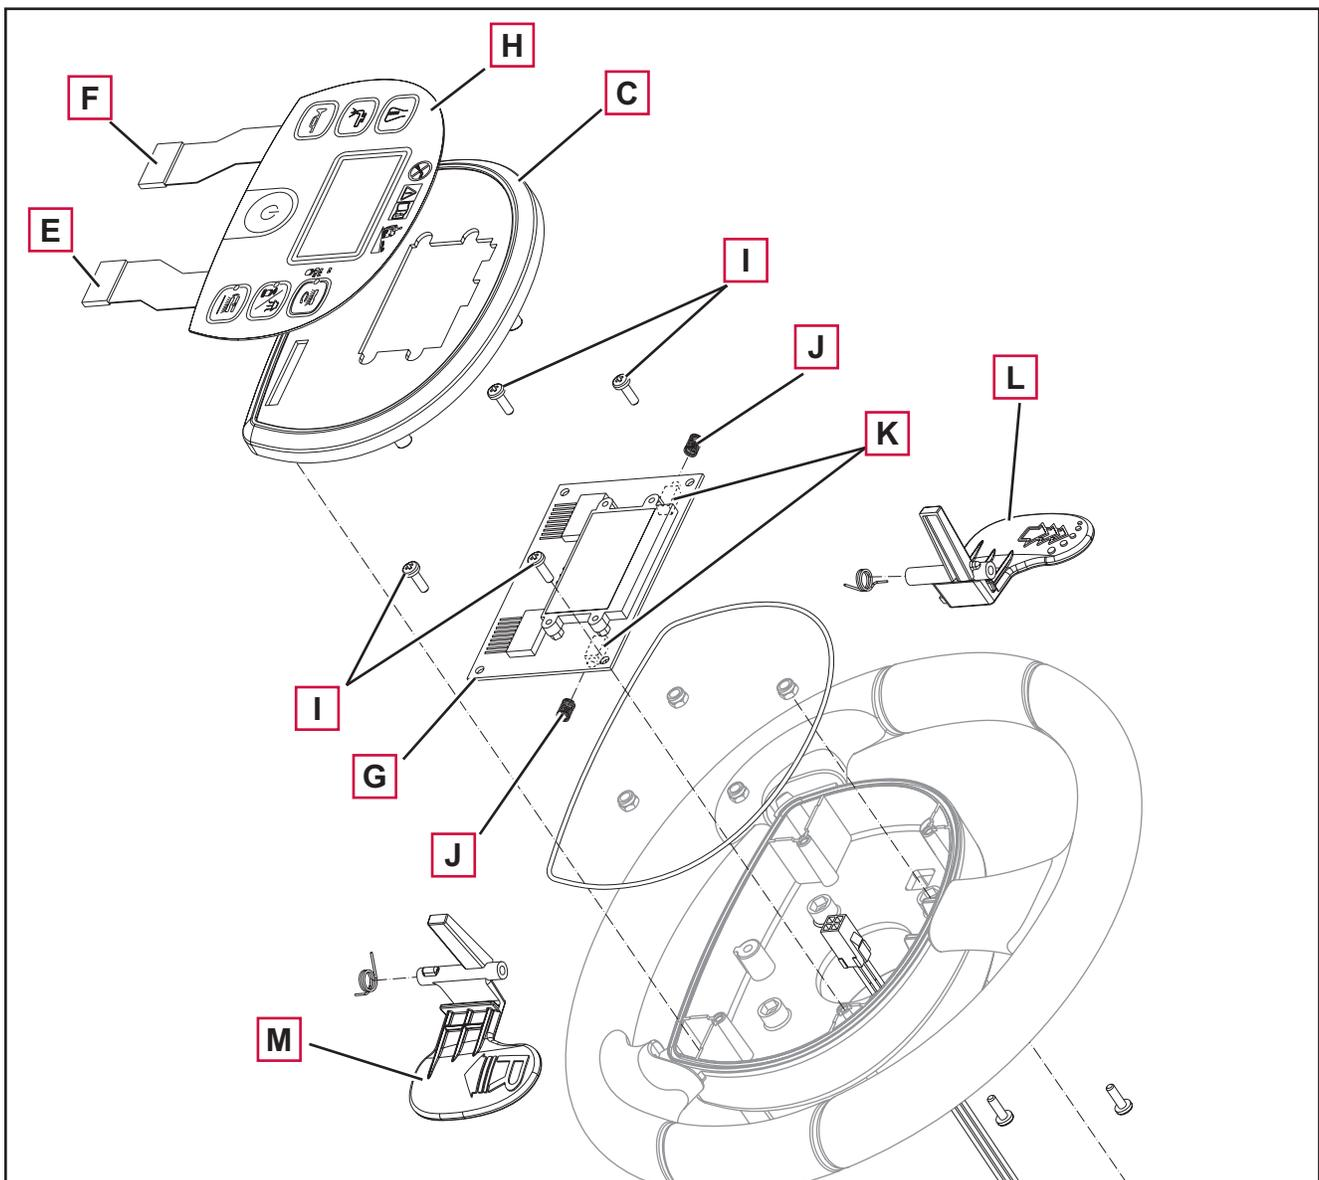

Figure 16
8. Carefully lift the dashboard instrument electronic board (H, Figure 16) and remove it from the cover (C).